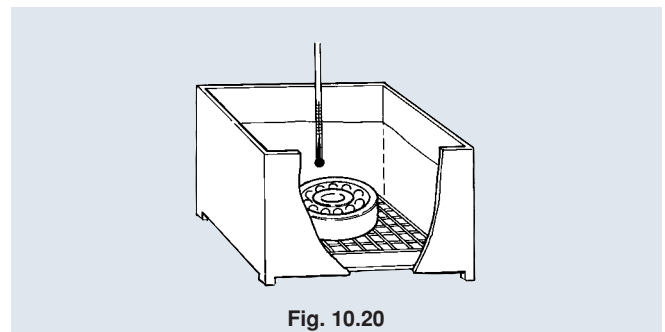

Fig. 10.20
- Usually, the bearing is heated in oil (**Fig. 10.20**). However, it may be heated in a heater.